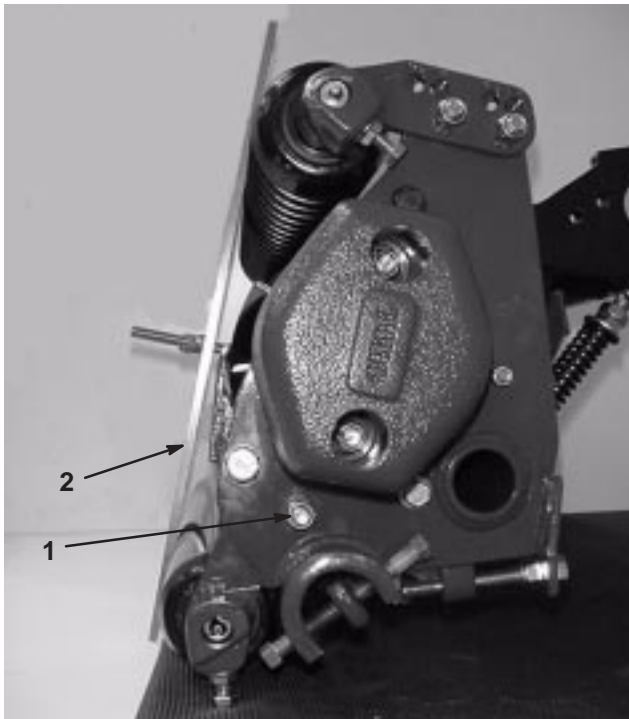

Figure 14
1. Rotate the cutting unit vertical and place the gauge bar across front and rear rollers (Fig. 14).
2. Loosen the locknuts securing the height-of-cut brackets to each end of the cutting unit (Fig. 14).
4. Place the bar across the front and rear rollers and adjust the tap bolt until the underside of the screw head engages the bedknife cutting edge (Fig. 14).